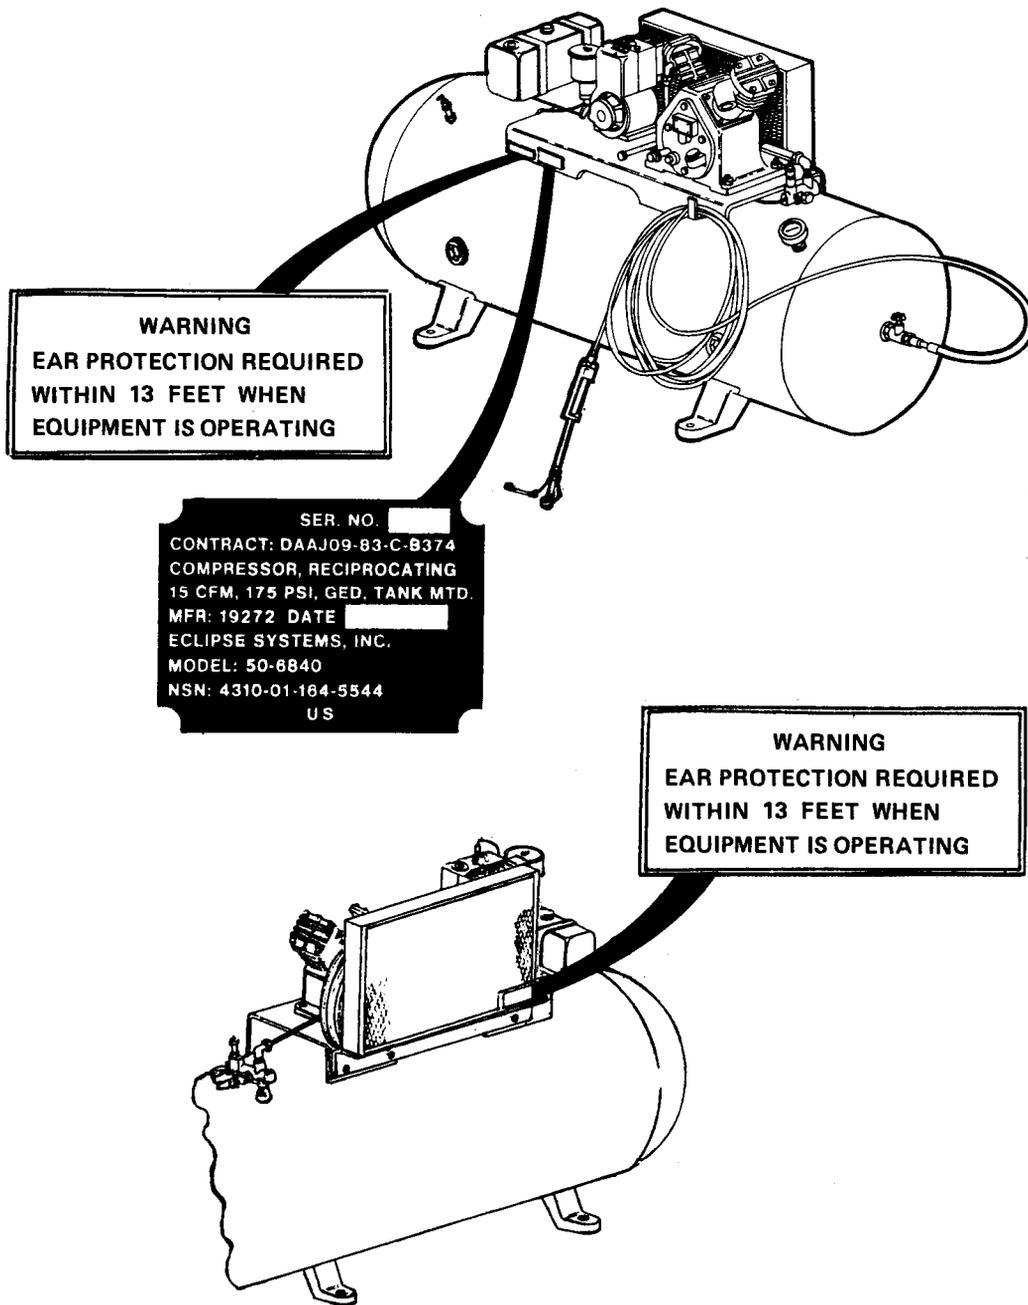

Figure 2-2. Compressor Decals
d. Operating Instructions on Decals (See figure 2-2).